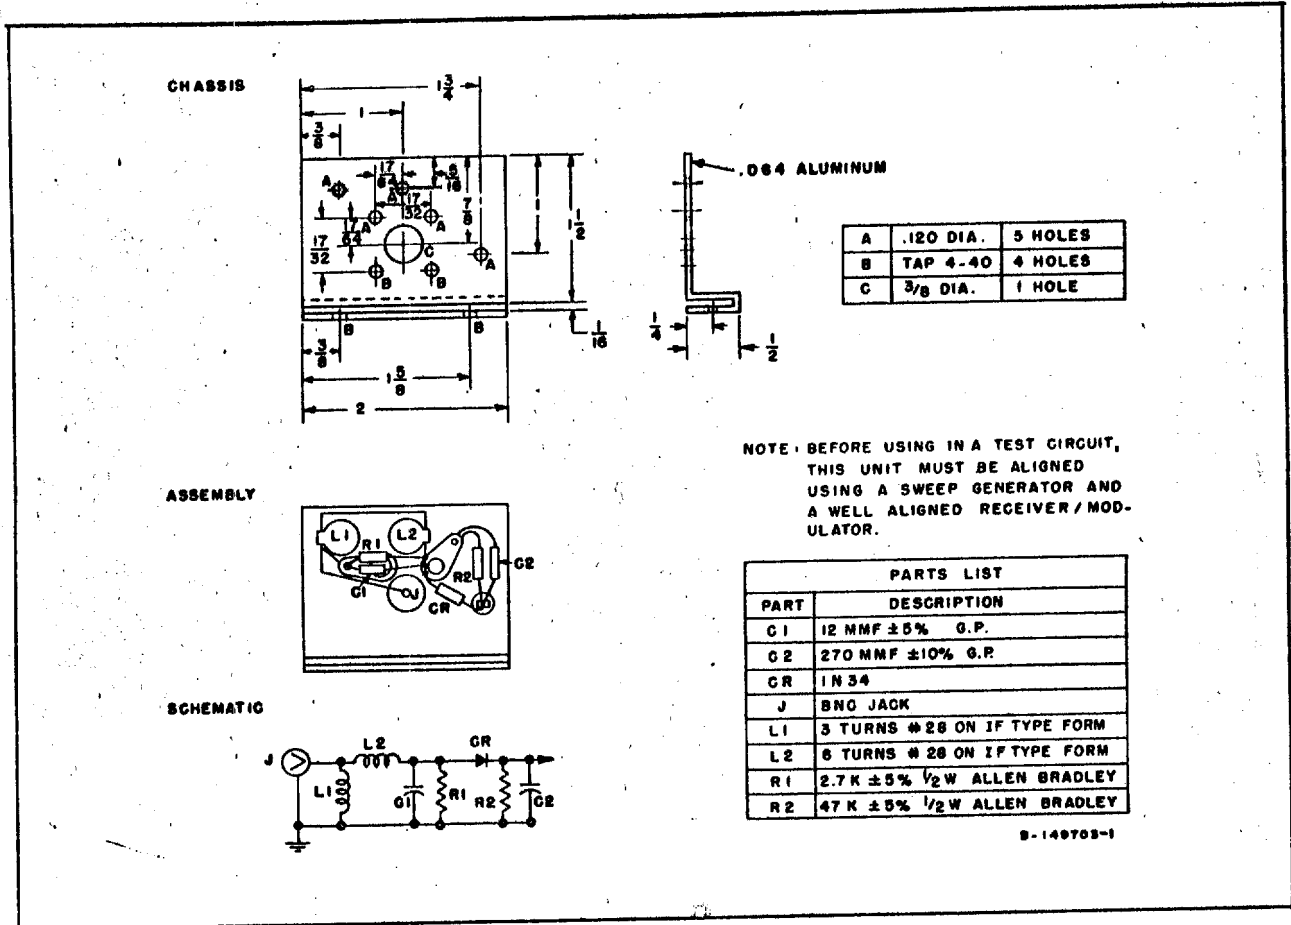

Figure RM-4—70 mc Dummy Load
a. Connect the "70 MC OUTPUT" of the receiver/modulator to the 70 mc jack of test equipment item 27(f) (see Figure RM-4) using the 70 mc coaxial cable that is normally connected to the Transmitter "70 MC INPUT." (No other cable should